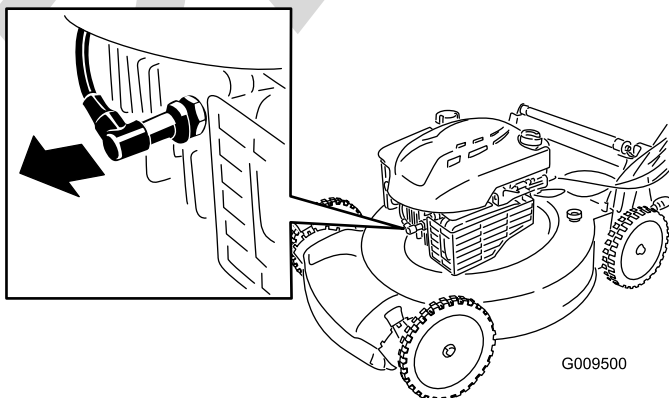

Figure 18
2. Disconnect the spark-plug wire from the spark plug (Figure 18) before performing any maintenance procedure.